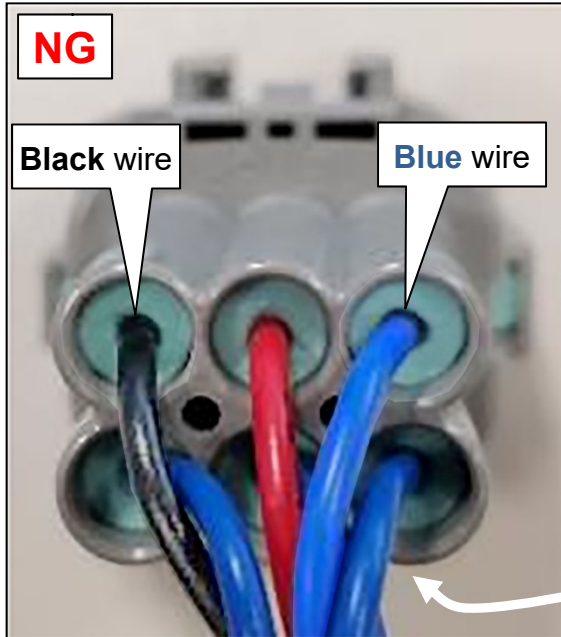

Figure 21
21. Remove both terminals of the **blue** and **black** wires from the connector (see Figure 21 and 22 for selecting the correct **blue** wire).